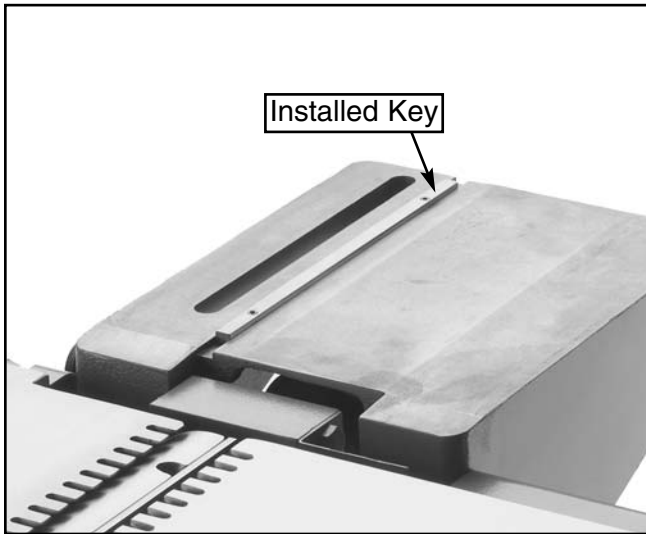

Figure 4. Properly installed key.
2. Make sure the 10 x 8 x 260mm key is fitted into the key way on the fence base support as shown in **Figure 4**.